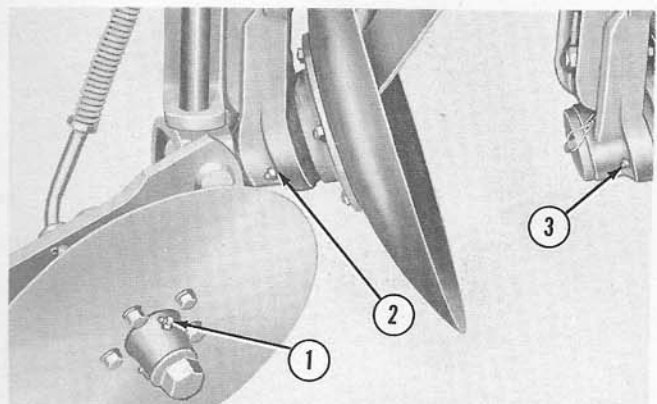
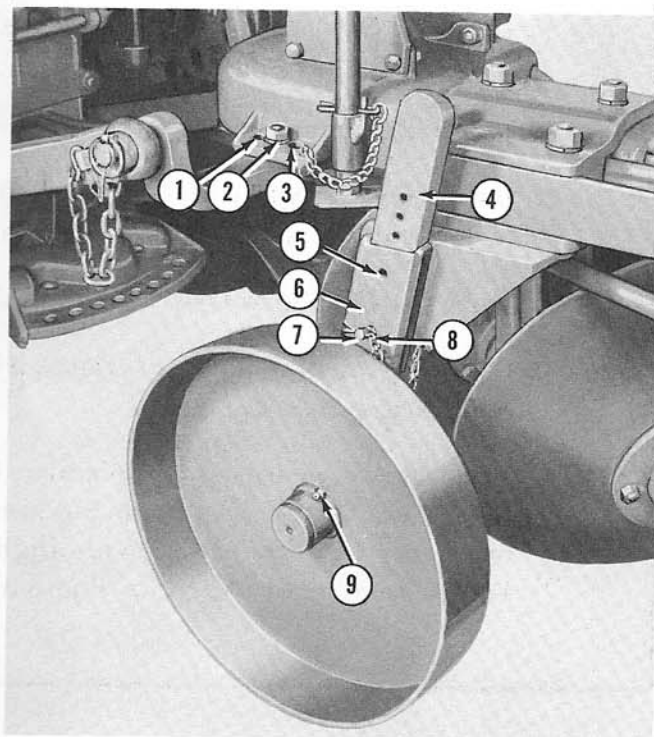

Figure 6
Figure 14
Use a standard grease gun to lubricate the grease fittings shown in Figure 6: hub (3) of front disc, hub (2) of rear disc, hub (1) of furrow wheel. Wipe the fittings clean and force enough grease into the bearings to carry out dirt and grit and to seal the bearings from outside dirt and dust. Apply a good grade of grease to these fittings daily.
- a. Insert the gauge wheel slide bar (4), Figure 14, through the bottom of the gauge wheel bracket (6).
- b. Secure with the pin (7), Figure 14, and cotter pin (8) provided (see ADJUSTMENTS).
**Cross Shaft Adjustment:** The cross shaft can be adjusted by changing the position of the bolt which holds it to the left side of the main frame. With the bolt in the forward hole (1), Figure 14, the width of cut between the front and second blade is 9". When the center hole (2) is used, the width of cut between the front, second and rear disc is 10". The width of cut between the front and second disc is 11" when the rear hole (3) is used.
**Depth Adjustment:** The depth should be adjusted after making the first cut in a new plowing operation by setting the gauge wheel. To increase the penetration, move the gauge wheel and slide bar (4), Figure 14, upward and secure it in the hole that provides the desired depth. When transporting the disc plow, use the hole (5) provided on the gauge wheel bracket (6).
The lubrication fittings on the Dearborn F.M.D. Three Disc Plow are the same as those listed on page 5, with the addition of a fitting (similar to (2), Figure 6) on the third disc hub and one on the gauge wheel hub (9), Figure 14. Lubricate all fittings daily with a good grade of grease.